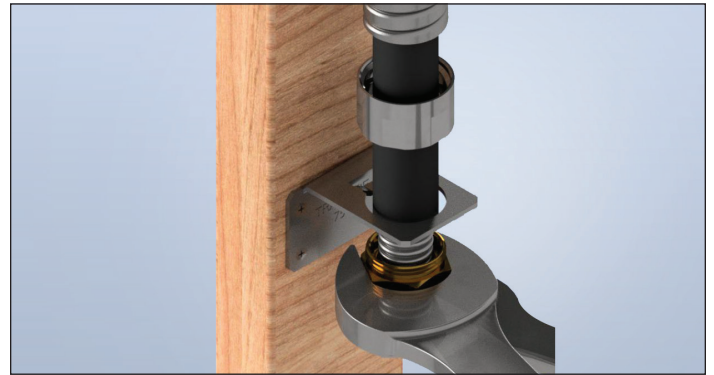

Figure: 1-7
7. Thread the Body into the Nut to engage the threads. Using appropriate wrenches, tighten the fitting to the torque values listed in Table 2. Note that **TracPipe** System fitting is designed to form a leak tight seal on the stainless-steel tubing as the fitting is tightened (Figure 1-7). When fully tightened, there should be no threads visible between the Nut and Body.